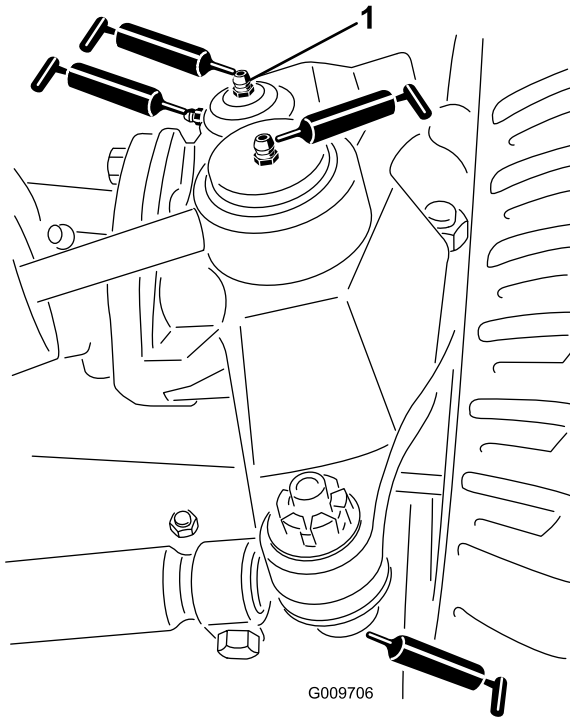

Figure 24
- Steering cylinder ball joints (2) (Figure 24)
- Tie rod ball joints (2) (Figure 24)
- King pin bushings (2) (Figure 24). **The top fitting on the king pin should only be lubricated annually (2 pumps).**